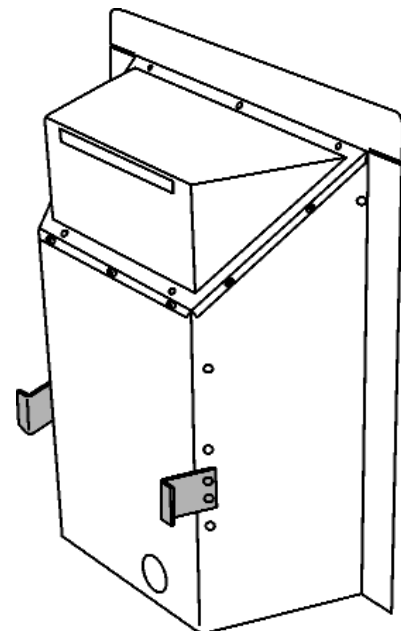

Figure 15. Fireback spacers.
7. **The appliance is supplied with two fireback spacers that must be fitted in all installations.** These should extend backwards to ensure sufficient clearance from the back of the fireplace. Position the fireback spacer as shown in figure 15. Secure the fireback spacers using the four tapping screws supplied with the fire.